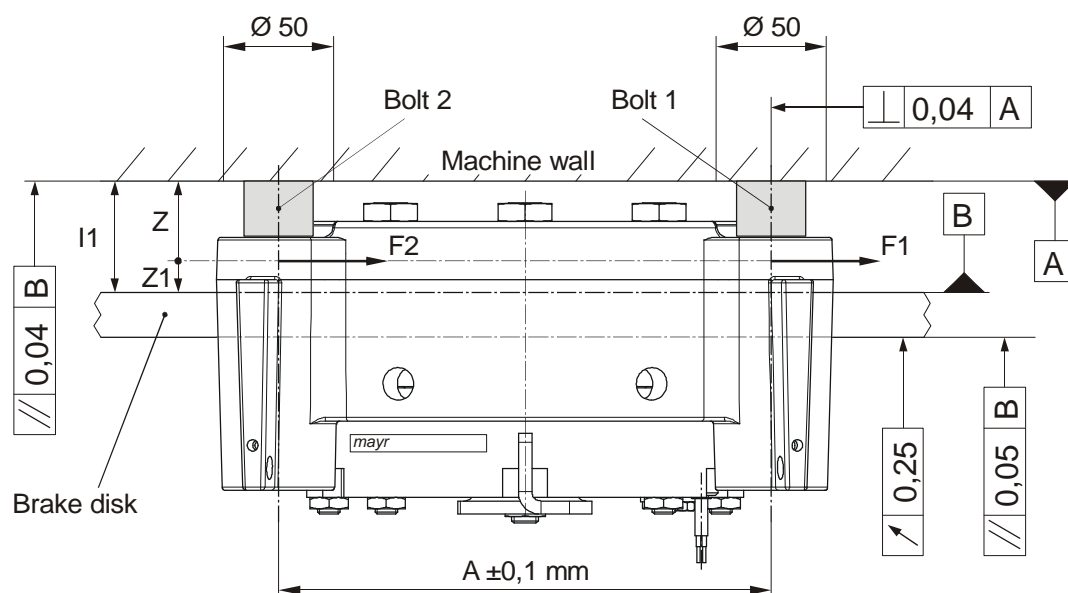

Fig. 14
- The screw-on surface in the Ø 50 mm range (Fig. 14) must be 0,04 mm parallel to the brake disk if screw-in guide bolts (Type 894. ⁵/₆ _ _ 2 _) are used.
- The transverse force occurs on the guide bolt of bearing bushing 1 (3.1). The lever arm which has an effect on the guide bolts is $Z = l_1 - Z_1$ (Fig. 14.)